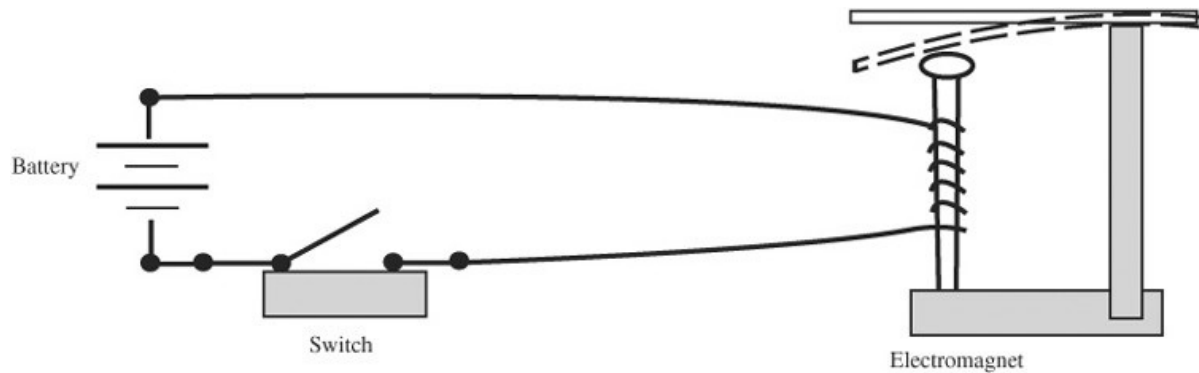

Figure 100-2 *In a telegraph an electromagnet is activated when a switch is closed to complete the circuit.*
7. OK. Let’s hook everything up. What you have is a series circuit from the DC power supply through the electromagnet to the key. The key is simply a switch. When it closes, the electromagnet pulls the metal strip down, as shown in Figure 100-2. Short and long durations are the dots and dashes of Morse code. If you have enough wire, you separate the key and the receiver by some distance. (Note: if you use this to cheat on tests in school, please make sure you don’t say you got the idea to do it here.)
1. Repeat the previous set of measurements, but this time, include an ammeter in series with the circuit and a voltmeter in parallel with the circuit, as shown in Figure 100-2. It helps with the comparison if you keep the voltage constant throughout these measurements and compare the current flowing in the circuits.